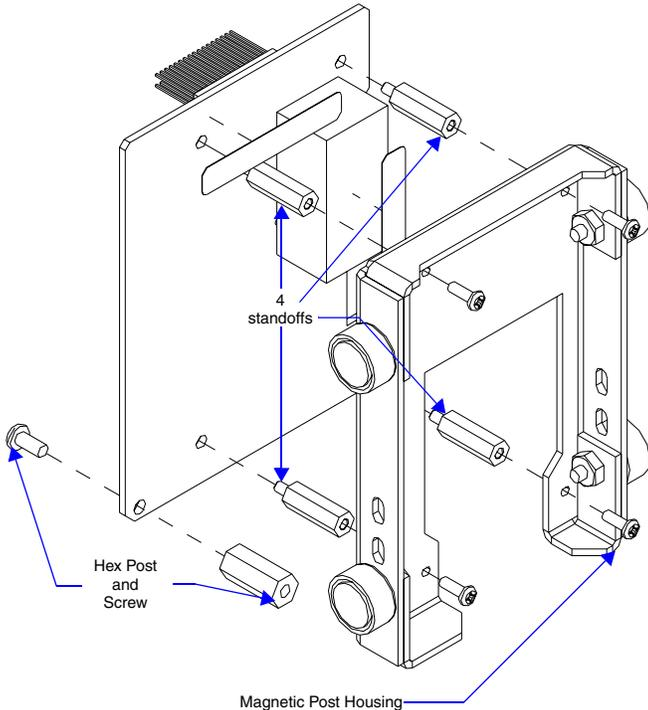

FIG. 4 4 Standoffs and Hex Post Locations
5. Place the hex post over the hole illustrated in FIG. 4 and fasten it down with the screw on the bottom side of the board.